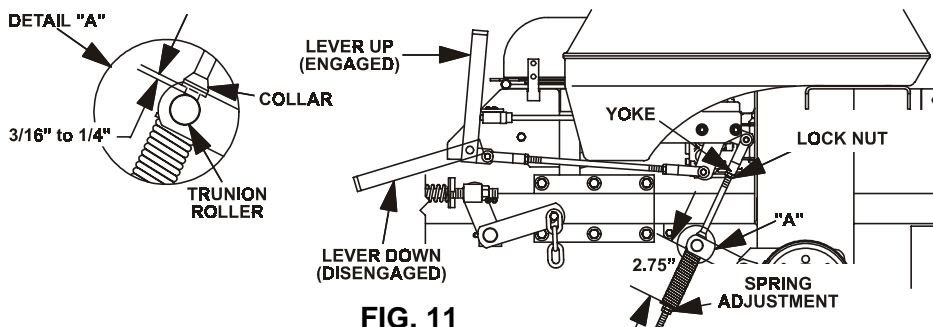

FIG. 11
- b) Measure the length of the spring. Measurement should be 2.75" between washers (see Fig 11).
- c) Measure the distance between the trunion roller and the rod collar. Measurement should be 3/16" to 1/4" (See Fig 11).
- d) If adjustment is necessary, loosen the nut directly below the yoke. Turn the bottom nut (below washer) until the correct measurement is obtained (See Fig 11) turn nut clockwise to lengthen the gap (screws rod into yoke) and turn counter-clockwise to shorten the gap (screws rod out of yoke). Tighten nut against yoke and check opposite side of unit, repeat if necessary.